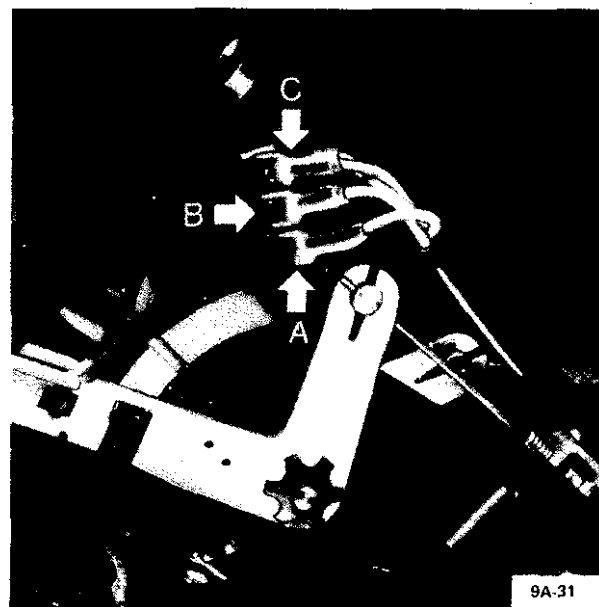

Figure 9A-43 Blower Switch Wires
2. Install wires onto blower switch. See Figure 9A-53.
3. Attach **bowden** control wire to air distribution flap. See Figure 9A-42.